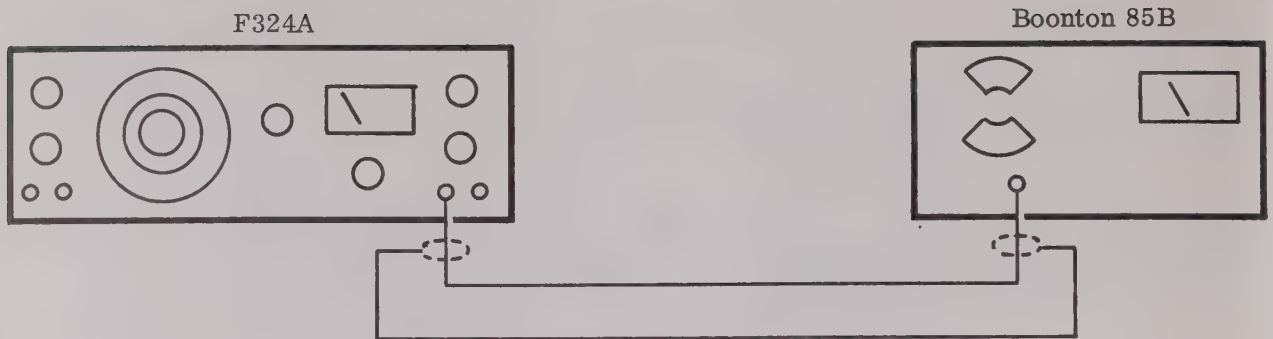

FIGURE 5-13
- j. Interconnect equipment as shown in Figure 5-13, observing signal and ground connections carefully. Use the 50Ω Output Connector and DO NOT terminate the Output.